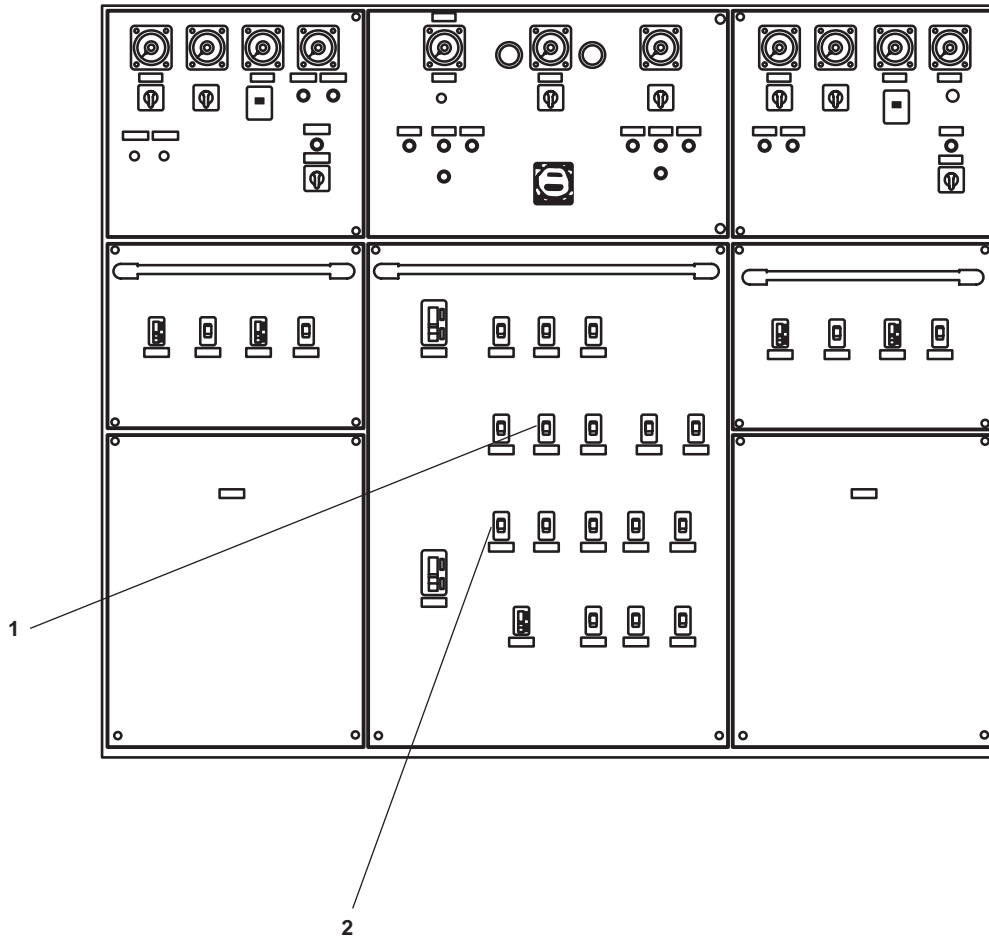

Figure 2. EOS Main Switchboard
2. At the main switchboard in the EOS, set the LUBE OIL PURIFIER circuit breaker (figure 2, item 1) to OFF.